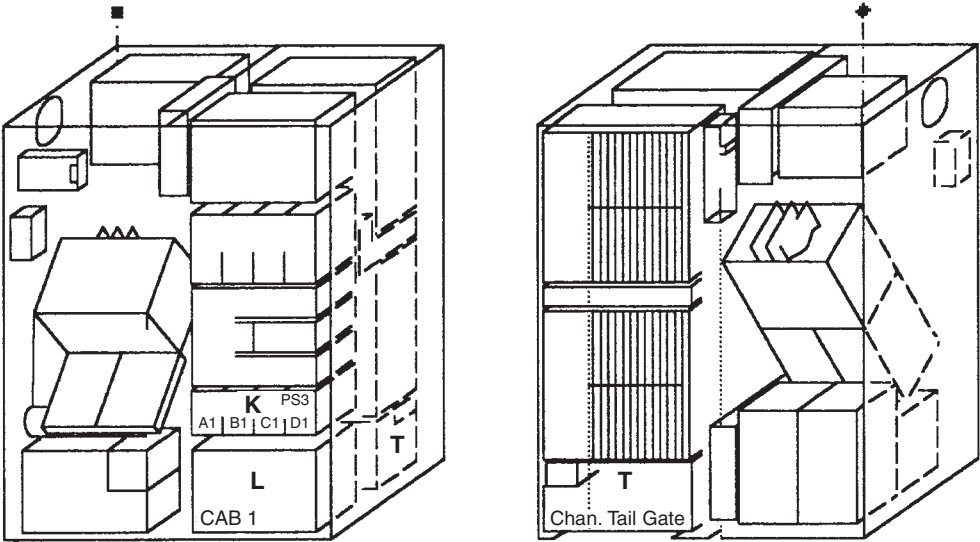
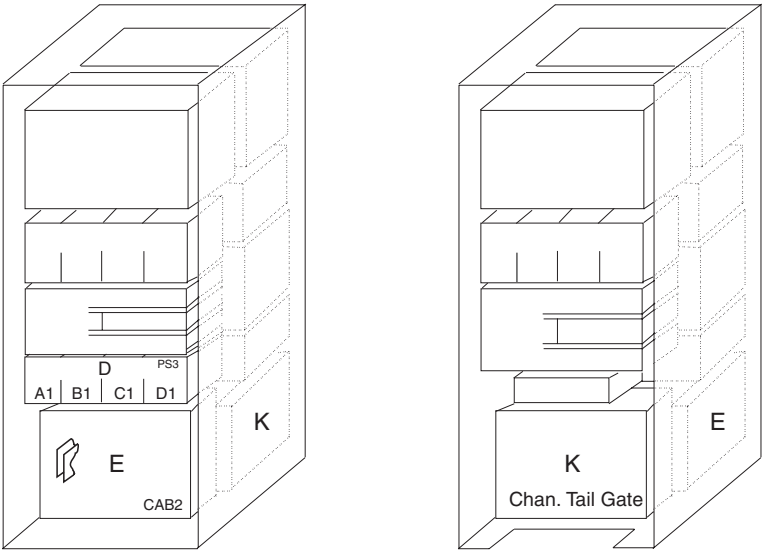

Figure 4-120. Channel Board, Tailgate, and Channel Power in Basic Frame 01
Figure 4-121. Channel Board, Tailgate, and Channel Power in Frame 02
8. Using Figure 4-120 on page 4-131 or Figure 4-121 on page 4-131, locate tailgate 01T-A1 containing the channels 1 to 8, or tailgate 02K-A1 containing the channels 9 to 16.
4. Locate (using Figure 4-120 on page 4-131) channel board 01L-A1 containing channels 1 to 8, or (using Figure 4-121 on page 4-131)
5. For the channel board you are working on, locate the related tailgate using Figure 4-120 on page 4-131 or Figure 4-121 on page 4-131.
9. The power supplies for channel board 01L-A1 are located at 01K. Refer to Figure 4-120 on page 4-131.
The power supplies for channel board 02E-A1 are located at 02D. Refer to Figure 4-121 on page 4-131.